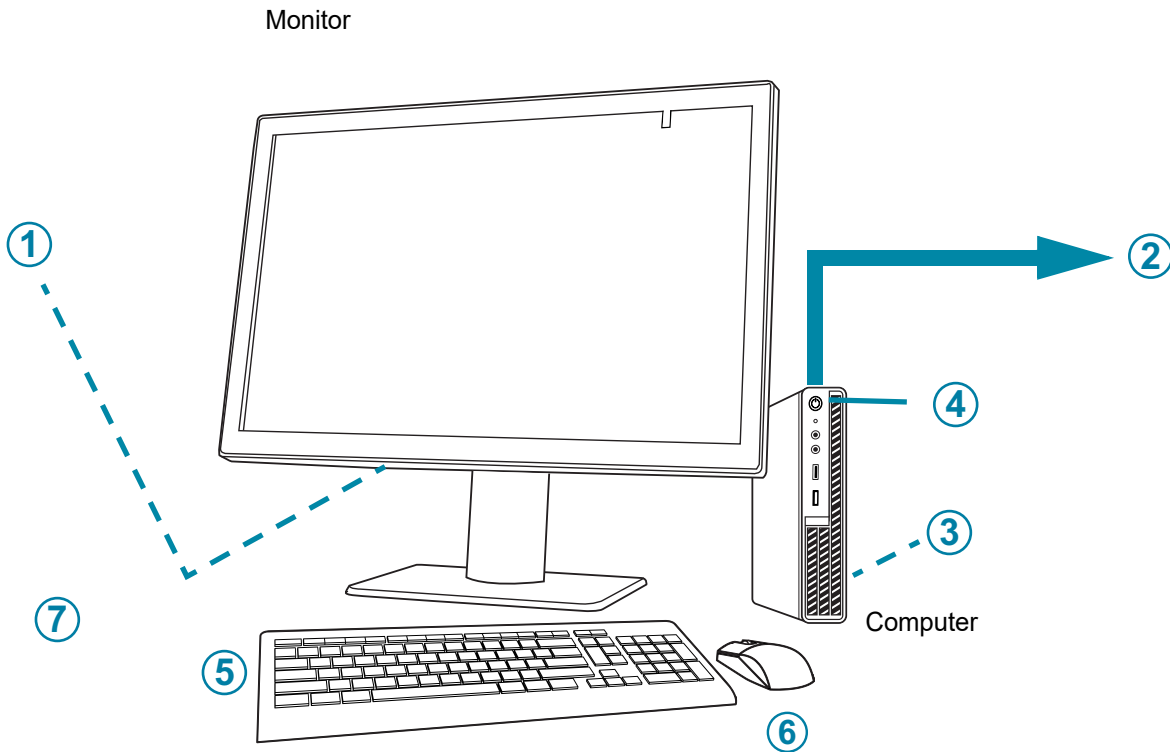

Figure 1-4 Review Station Components
Key to Figure 1-4
①	Monitor power button, under the connector compartment cover
②	Connection to the Image Management Server (depicted in concept in Figure 1-4)
③	Computer processor card, installed in the computer
④	Computer power button, location varies by computer model
⑤	Computer keyboard
⑥	Computer mouse
⑦	Barcode scanner (optional, not shown in Figure 1-4)